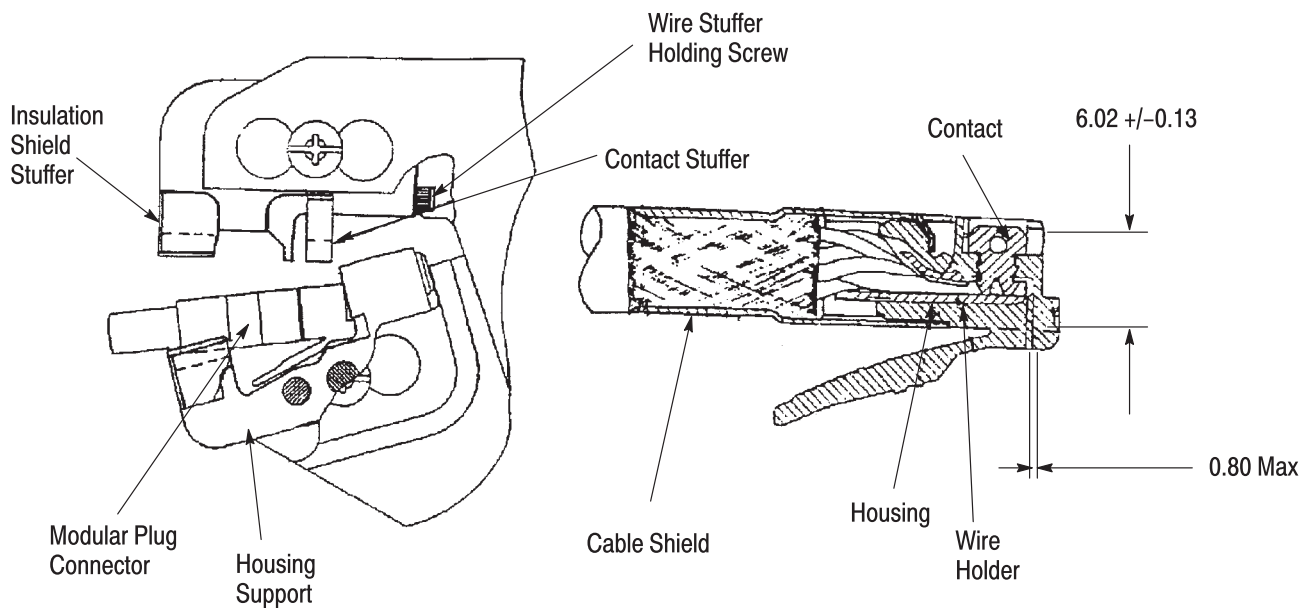

Figure 3
*This tool is provided with a crimp–adjustment feature, initially, the crimp height should be verified as in Figure 3. Refer to Section 5, CRIMP HEIGHT INSPECTION to verify the crimp height before using the tool to crimp the desired connector.*
Figure 3 shows a cut-away of a typical terminated plug and the required location of the conductors. A visual inspection through the plastic housing of the plug should reveal whether the conductors are within the acceptable range.
Inspect the connector for proper crimp height using an indicator with needle-point probes. Refer to Figure 3 for the appropriate crimp height measurement. If necessary, adjust the crimp height as described in Paragraph 6.1, Crimp Height Adjustment.